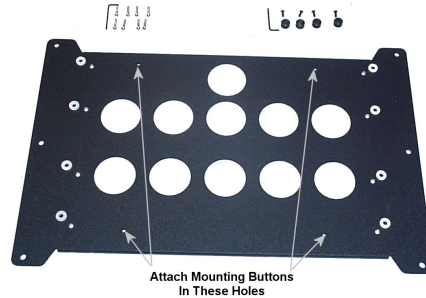

Figure 1
1. Using a 10-24 button head cap screw inserted from back side of bracket, secure mounting button, with chamfered hole of mounting button (larger surface) facing bracket to bracket (four places). (see Figure 1, Figure 2 and Figure 3).